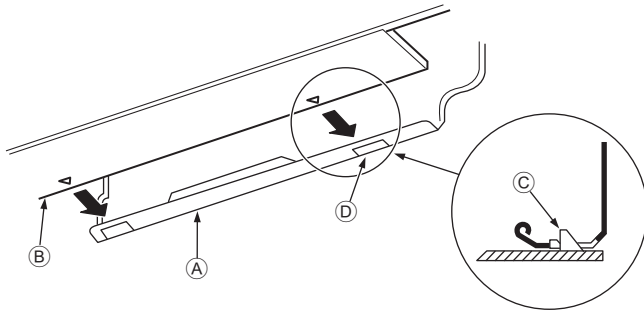

Fig. 3-15
3. While inserting the refrigerant piping and drain hose into the wall penetration hole (penetration sleeve), hang the top of the indoor unit to the mount board ①.
5. Fasten by pushing the bottom part of the indoor unit onto the mount board ①. (Fig. 3-15)
- * Check that the knobs on the bottom of the indoor unit are securely hooked into the mount board ①.
- ① Mount board
- ② Indoor unit
- ③ Hook
- ④ Square hole